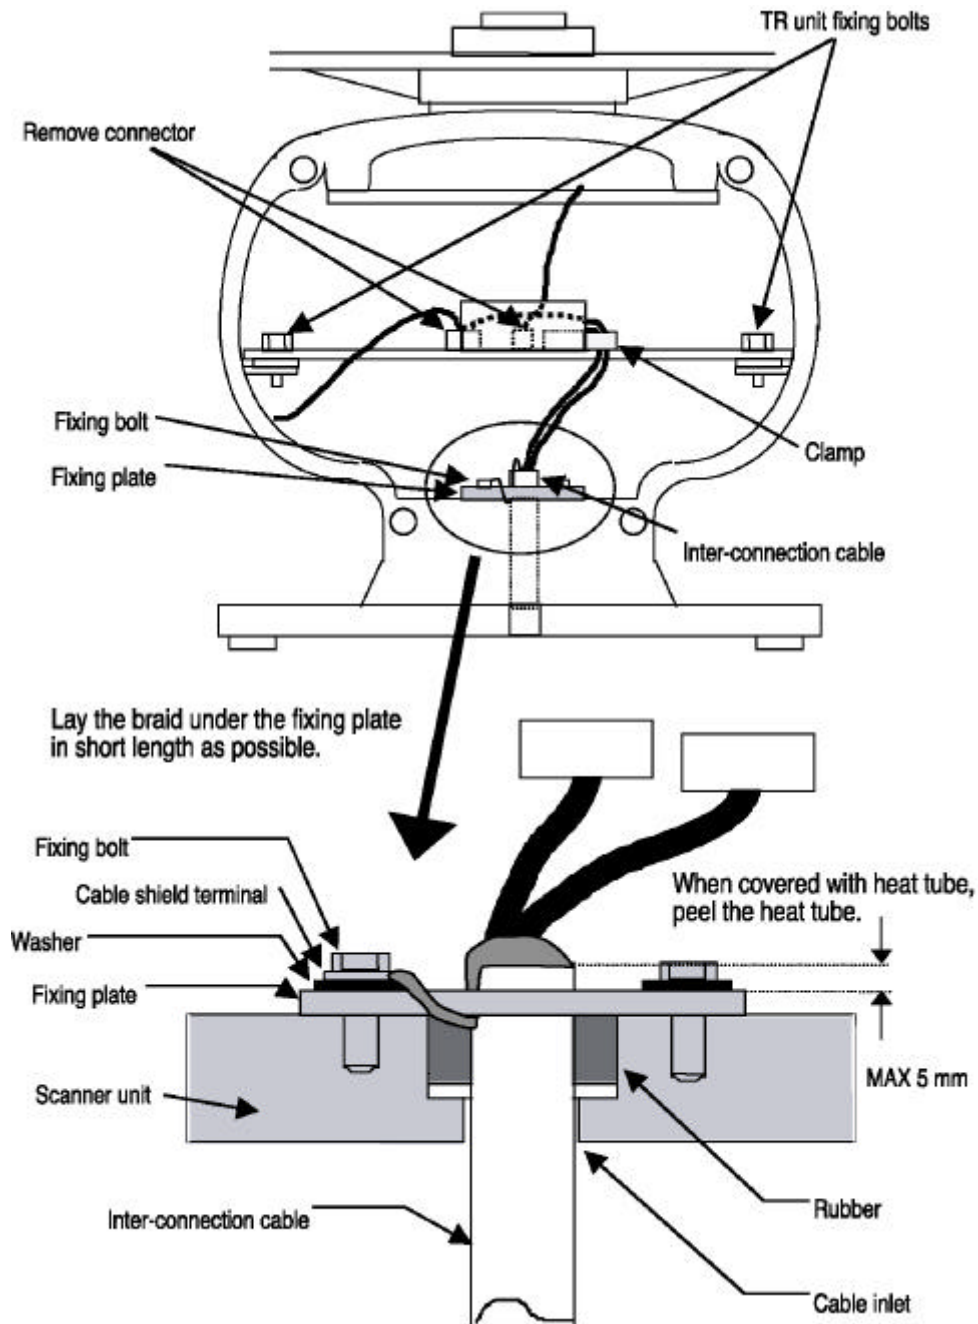

Fig.3-9 Interconnecting cable
3.7.1 Interconnecting cable (See Fig.3-9)
- ① Ensure that the radar is off. Connect the cable to the socket labeled "SCANNER" on the rear panel of the display unit.
- ② Use a T-wrench to remove the back covers of scanner unit.
- ③ Remove the two bolts securing the transceiver; pull out the transceiver after removing two connectors.(to Motor(J5), to Heading switch (J3))
- ④ Remove the four bolts securing the fixing plate at the cable entrance.
- ⑤ Remove the metal fixing plate, rubber seal and washer that secure the cable. Pass the cable through as shown in the diagram below; replace the above items and tighten the bolts.
- ⑥ Return the transceiver to its original position and secure it with the removed bolts.
- ⑦ Connect 7-pin connector to J2 and 9-pin connector to J1 of PCB. And connect two connectors that were removed at ③.
- ⑧ Refit the scanner covers.